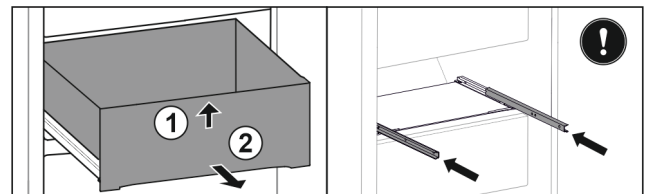

Fig. 46
- ▶ Lift up drawer at the front. Fig. 46 (1)
- ▶ Remove drawer to the front. Fig. 46 (2)